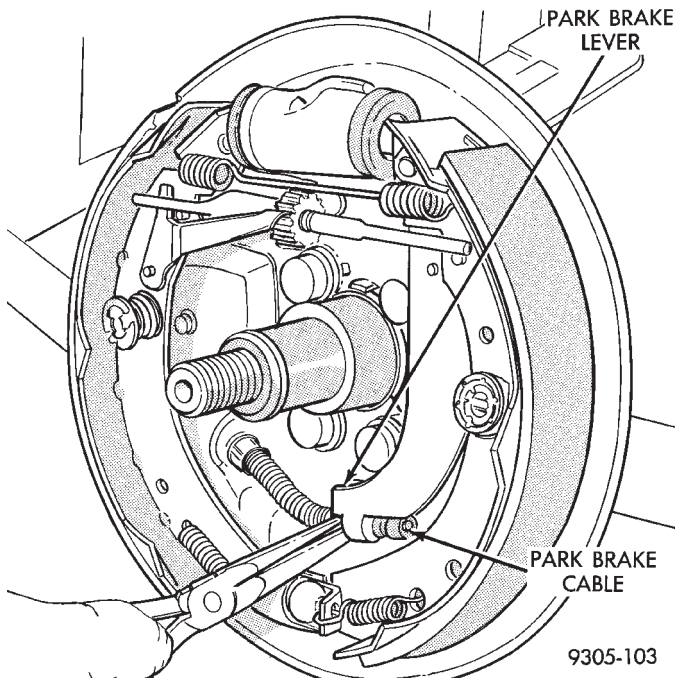

Fig. 1 Removing Brake Cable From Park Brake Lever
(1) Disconnect park brake cable from park brake lever on rear brake assembly (Fig. 1).